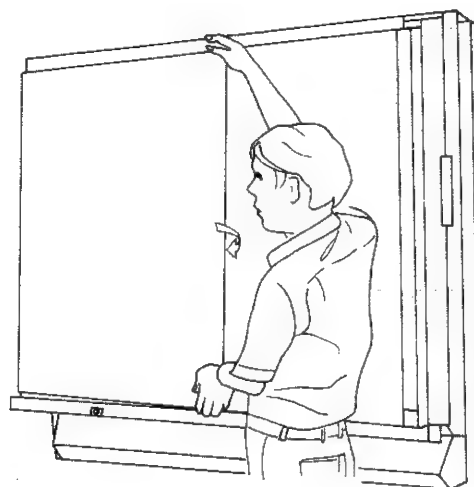

Figure 27
- (11) Lift up the white sheet bobbin and draw it out from the lower white sheet holder.
(12) While rolling up the white sheet TIGHTLY on the bobbin which was drawn out, carry the bobbin from the right side of the board to the left side. (Figure 27)